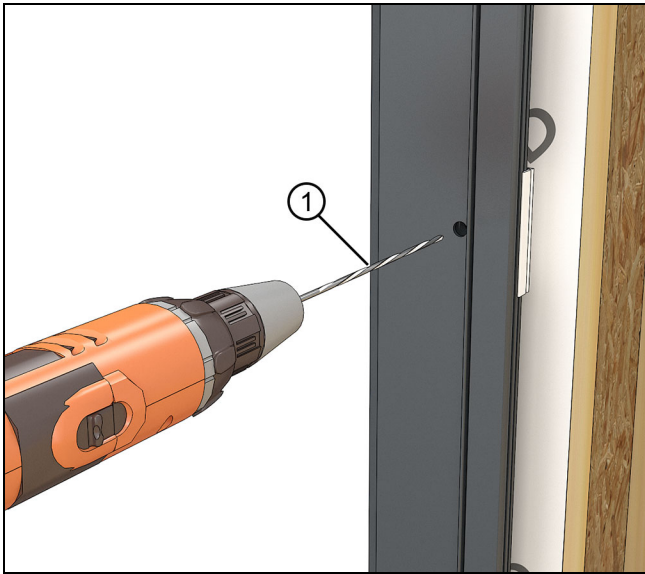

Figure 39
5. When driving screws into the rough opening, pre-drill first with a long 1/8" (3) drill bit. See Figure 39.